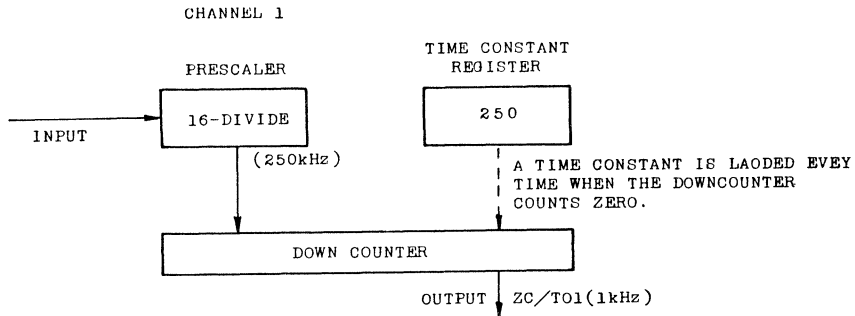

Fig. 3.17 Timer Block Diagram
- (b) The block diagram to change the system clock of 4 MHz to 1 KHz is shown in fig. 3.17.